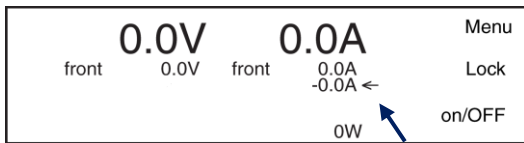

Figure 7.20: When the arrow appears behind the negative current settings, the sink current can be adjusted with the A-knob at the front panel.
- Set the function of the A-knob via Menu > Front Settings > Knobs: here select 'Iset-' or 'Iset+'. In the display the arrow behind the value for the current changes position. See Figure 7.20.